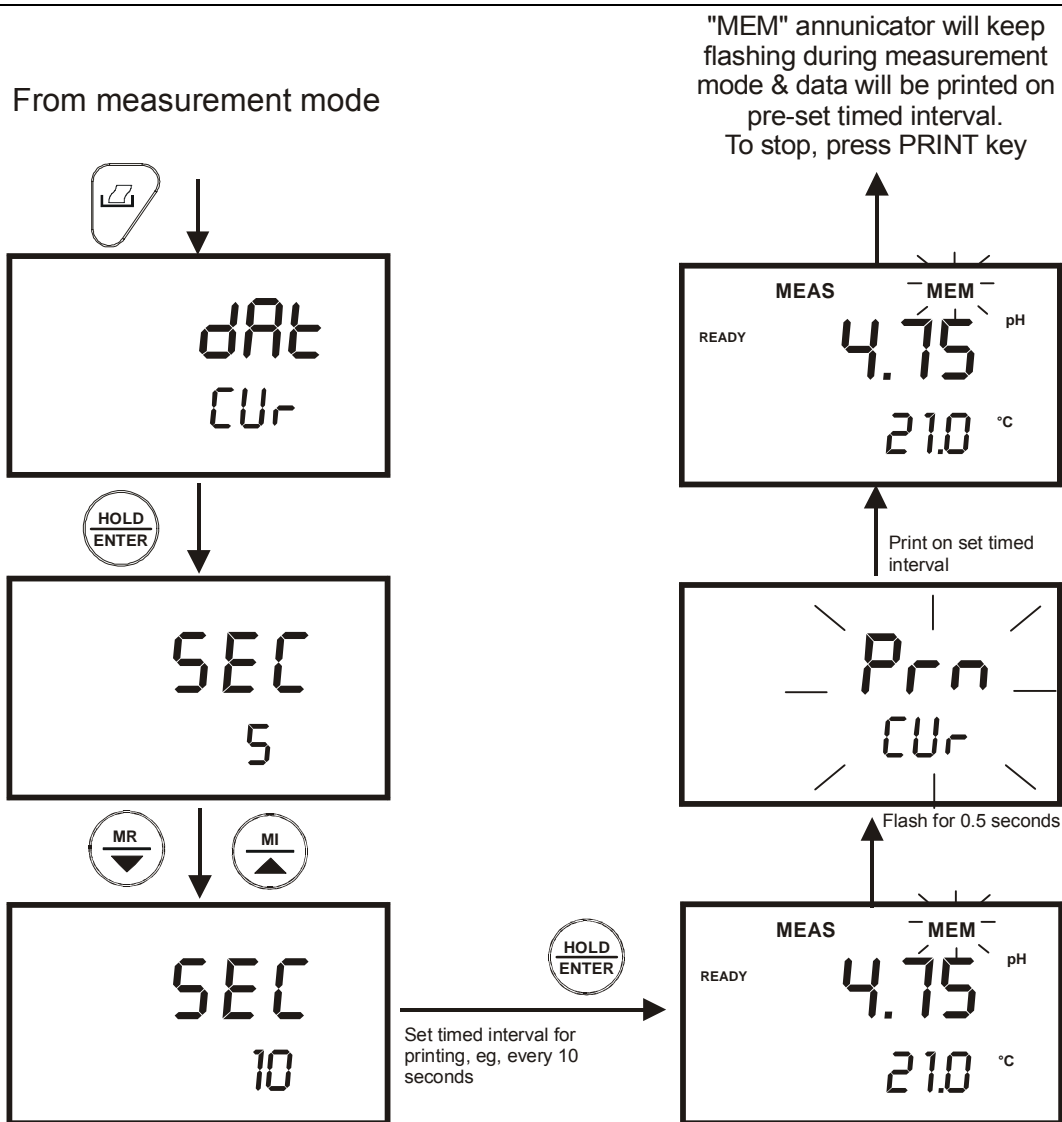

Figure 25: Print data on timed interval
3. The “Sec 5” screen appears. The default value is 5 seconds time interval. See Figure 25.